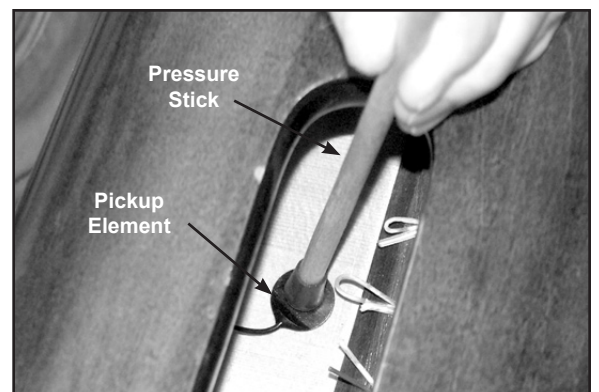

Figure 7 – Pressure Stick
4. Keeping the pickup element parallel to the soundboard (to ensure an even thickness of glue), press the pickup down firmly and quickly onto the super glue and hold in place with the provided pressure stick (*see figure 7*).